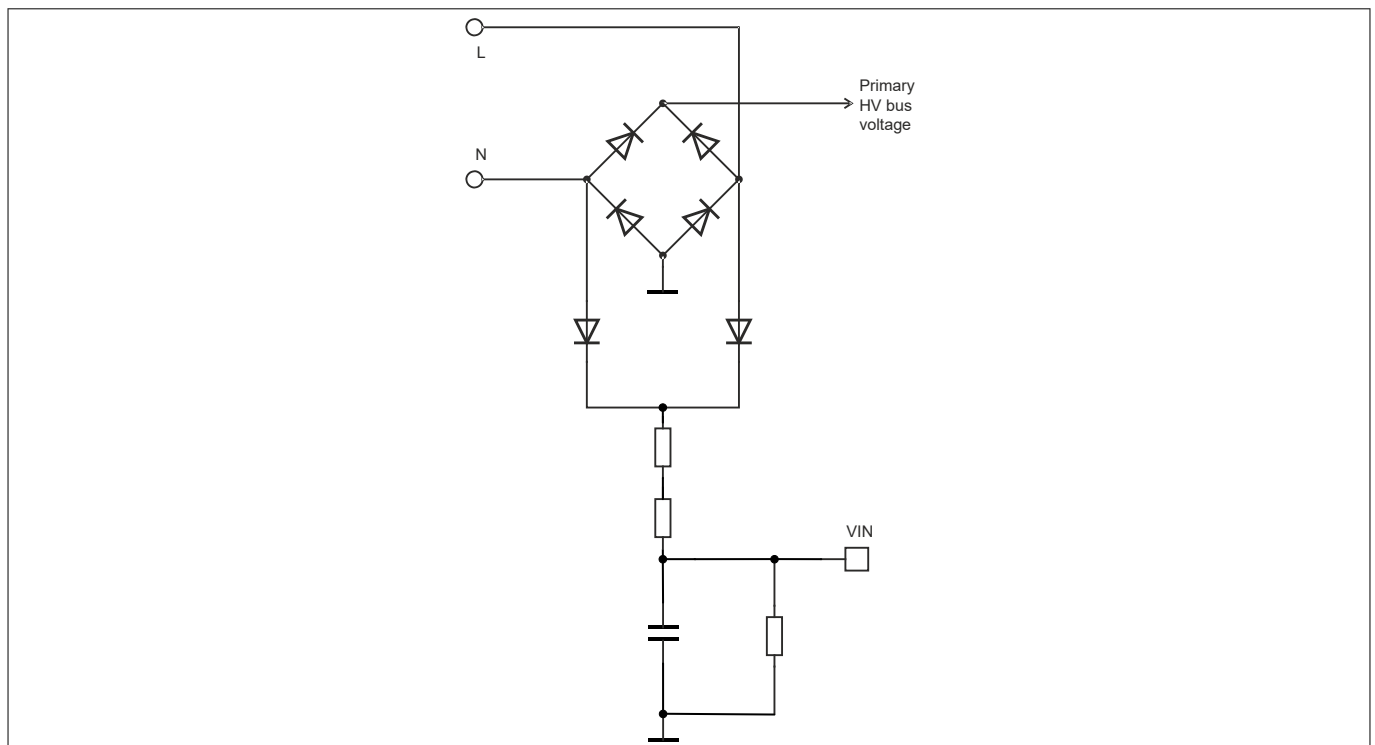
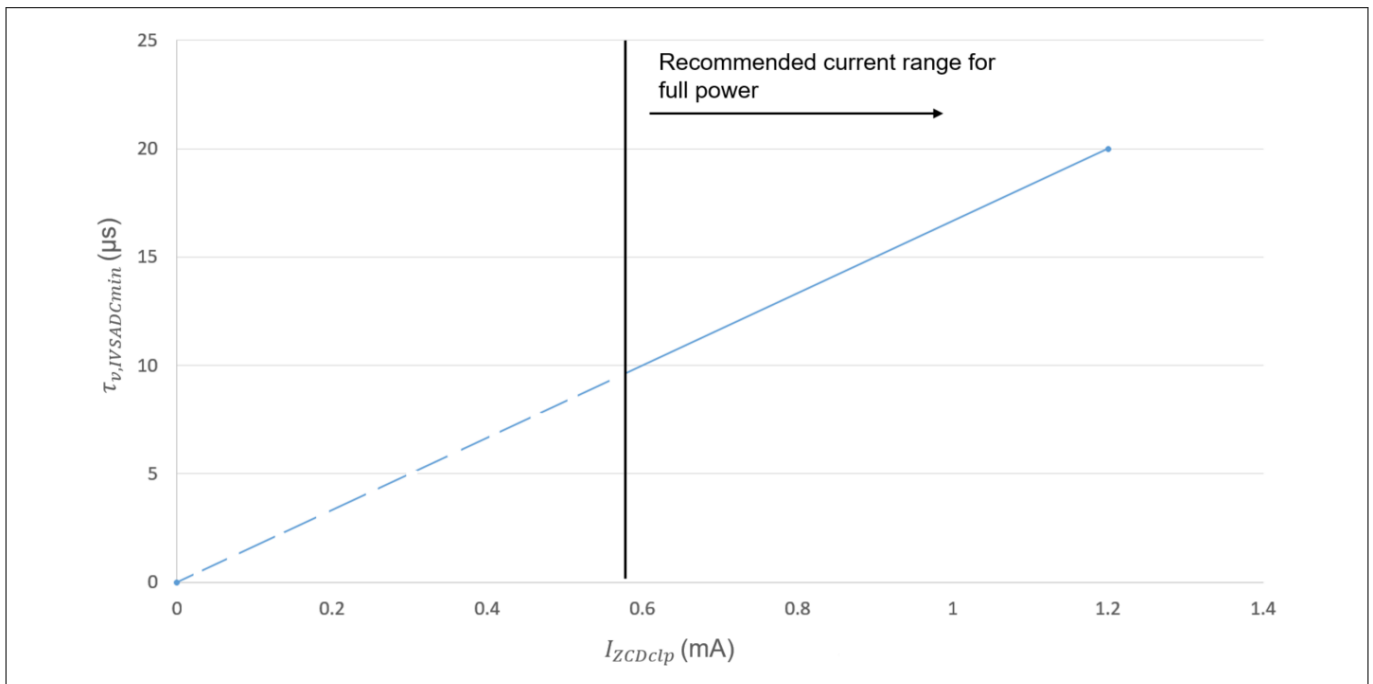
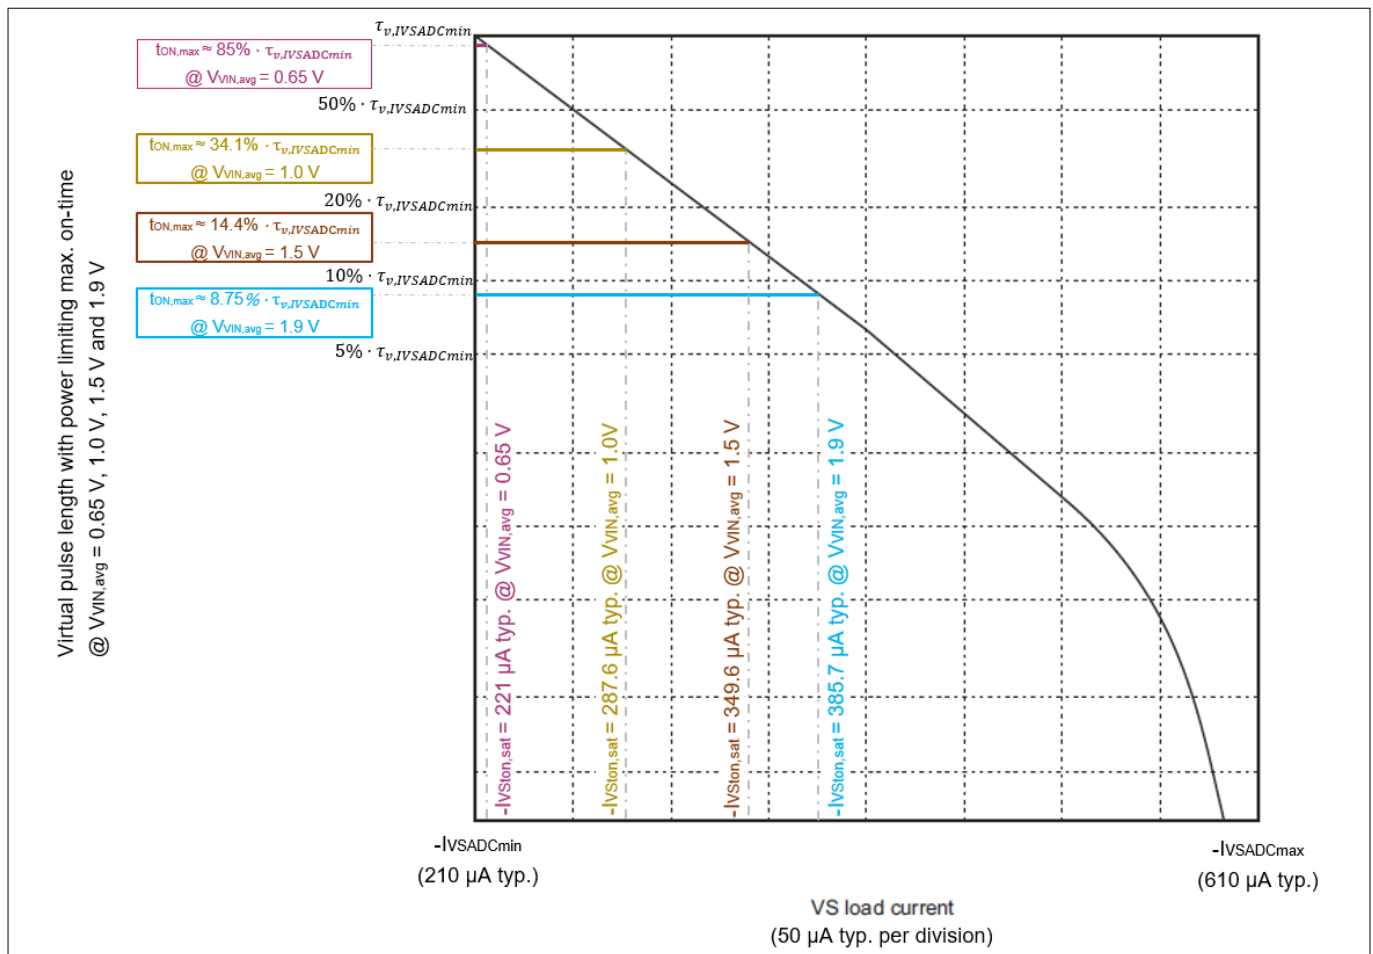

Figure 7 V_{IN} pin circuit
Figure 15 Virtual pulse length at $I_{VSADCmin}$, $\tau_{v,IVSADCmin}$ versus ZCD peak to peak settled clamping current, I_{ZCDclp}
Figure 16 Virtual pulse length mapping with power limiting maximum on-time effect
1. Based on $I_{ZCDclp} = 1.2 \text{ mA}$, obtain $\tau_{v,IVSADCmin} = 20 \mu\text{s}$ from Figure 15.
For $t_{ON,max}$ estimation, it is important to note that $\tau_{v,IVSADCmin}$ changes with different $V_{VIN,avg}$ level, when the input voltage detection circuit in Figure 7 is applied. This is because $\tau_{v,IVSADCmin}$ is scaled exponentially depending on I_{ZCDclp} in Figure 15, while I_{ZCDclp} is dependent on the input voltage, as explained in ZCD pin signal sensing.
Figure 16 shows the virtual pulse length with the power limiting maximum on-time effect, when $V_{VIN,avg}$ is 0.65 V, 1.0 V, 1.5 V and 1.9 V, respectively.
When $V_{VIN,avg}$ is at the brownin level ($V_{BI} = 0.65\text{ V typ.}$), the power limitation is enabled with $t_{ON,max} = 85\%$ of $\tau_{p,IVSADCmin}$, as shown in Figure 16. For example, if the desired $t_{ON,max}$ at brownin level is 17 $\mu\text{s typ.}$, it is necessary to have $\tau_{p,IVSADCmin} = 17\text{ } \mu\text{s} / 85\% = 20\text{ } \mu\text{s}$. And, according to Figure 15, $\tau_{p,IVSADCmin} = 20\text{ } \mu\text{s}$ is obtained when $I_{ZCDclp} = 1.2\text{ mA}$ is applied. As a result, to achieve $t_{ON,max} = 17\text{ } \mu\text{s typ.}$ at brownin level, R_{ZCD} should be dimensioned to produce $I_{ZCDclp} = 1.2\text{ mA typ.}$ at brownin level.